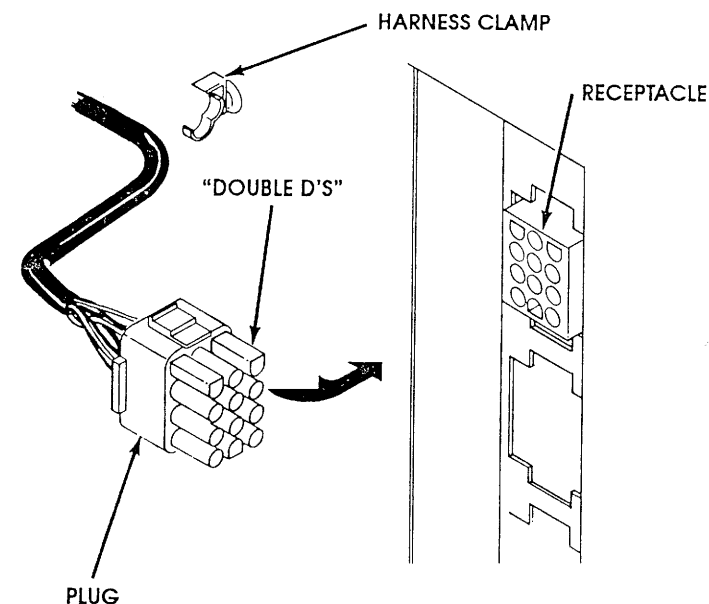

Figure 4
2. Open the harness clamp on the right side wall by pressing up on the tab. See **Figure 4**.